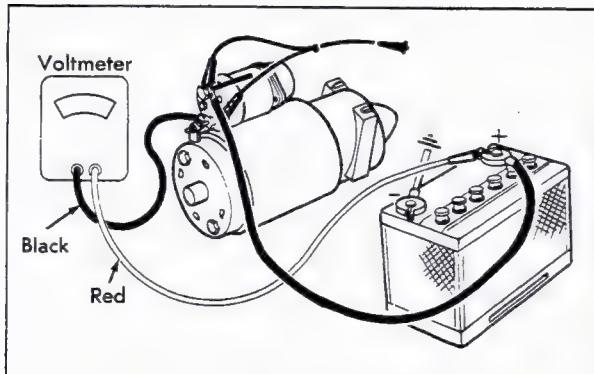

Fig. 6-12 Battery Cable to Starter Test
3. Connect starter solenoid remote switch and test leds as shown in Fig. 6-12.
4. Connect positive voltmeter lead to center of positive battery post, on which insulated battery cable is connected. Connect negative voltmeter lead to starting motor terminal, Fig. 6-12.